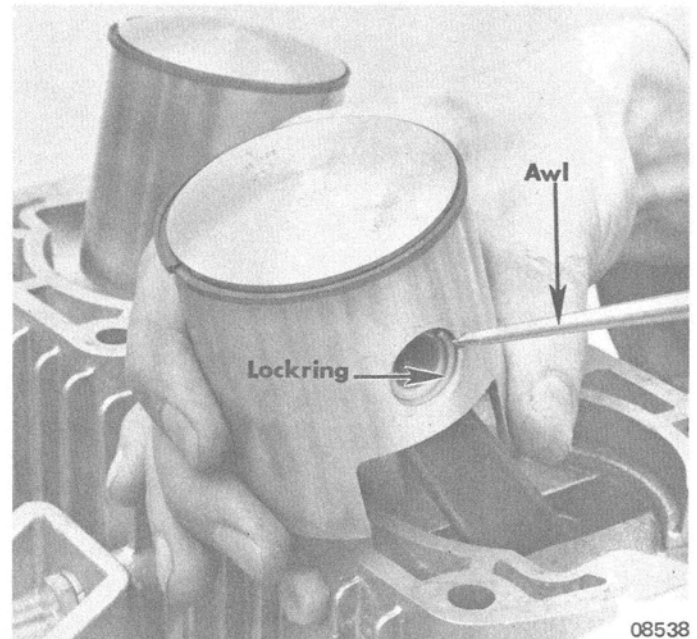

Figure 9. Removing Piston Pin Lockrings
2. Remove piston pin lockrings from pistons with an awl or other suitable tool. (Figure 9) Use caution not to mar piston skirt during removal of lockrings.